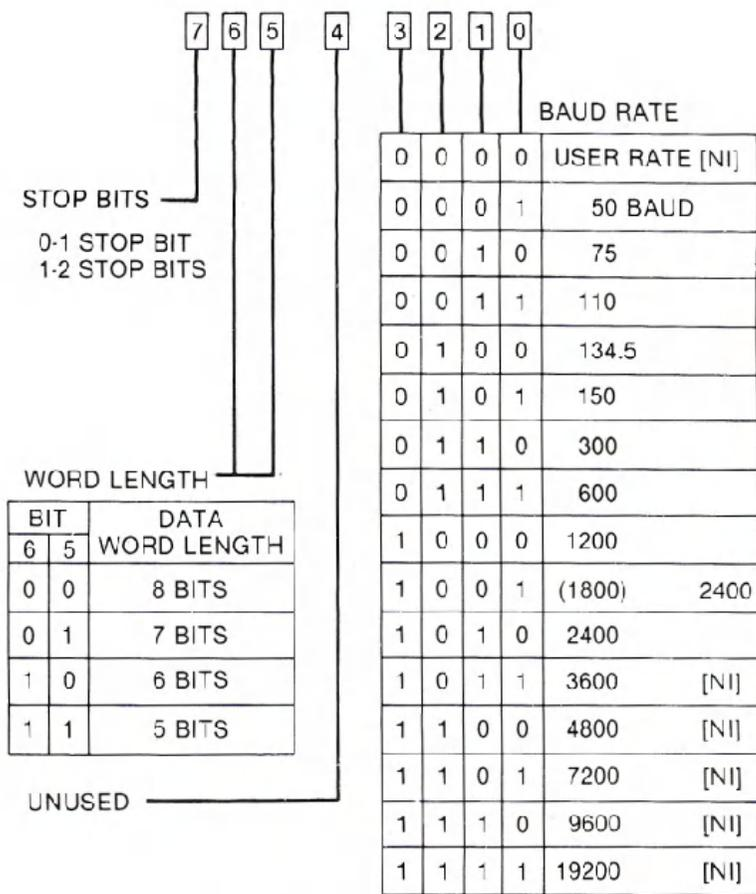

Figure 6-1. Control Register Map.
<control register> —Is a single byte character (see Figure 6-1, Control Register Map) required to specify the baud rates. If the lower 4 bits of the baud rate is equal to zero (0), the <opt baud low><opt baud high> characters give you a rate based on the following: